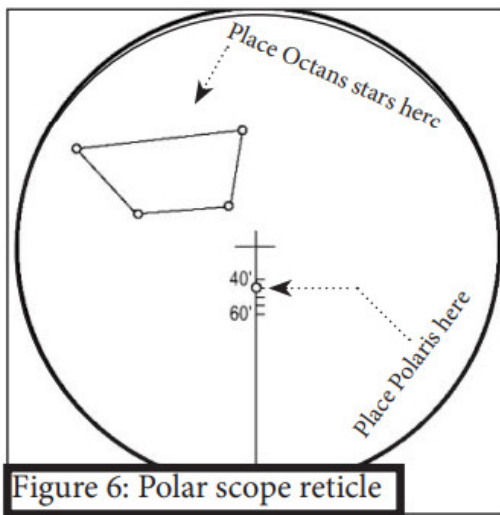

Figure 6: Polar scope reticle
3. Look through the polar viewfinder and notice the reticle pattern (see Figure 6). If the reticle is not in focus, rotate the focus ring (Figure 5, #11) until the reticle pattern is sharp.
2. Look through the polar scope and note the reticle crosshair. Unlock the RA axis and rotate the RA until the 40/60 line is vertical as shown in Figure 6. Re-lock the RA axis.